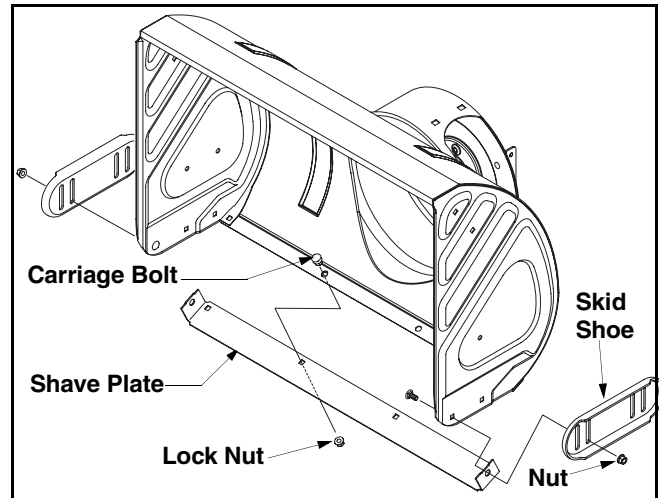

Figure 13
1. Remove the four carriage bolts and lock nuts which attach the two skid shoes to the snow thrower on two sides. See Figure 13 .
1. After removing both skid shoes, remove four carriage bolts and lock nuts which attach shave plate to the snow thrower housing. See Figure 13 . The shave plate and skid shoes at the bottom of the snow thrower are subject to wear. Check these periodically and replace as necessary.